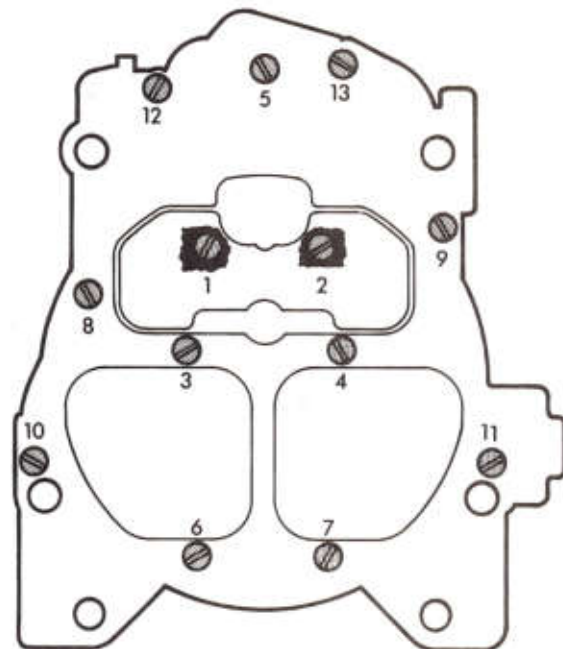

Fig. 13—Air Horn Screw Locations
- (5) Remove choke vacuum hose from tube on throttle body.
- (6) Remove air horn mounting screws and secondary air baffle deflector (Fig. 13).